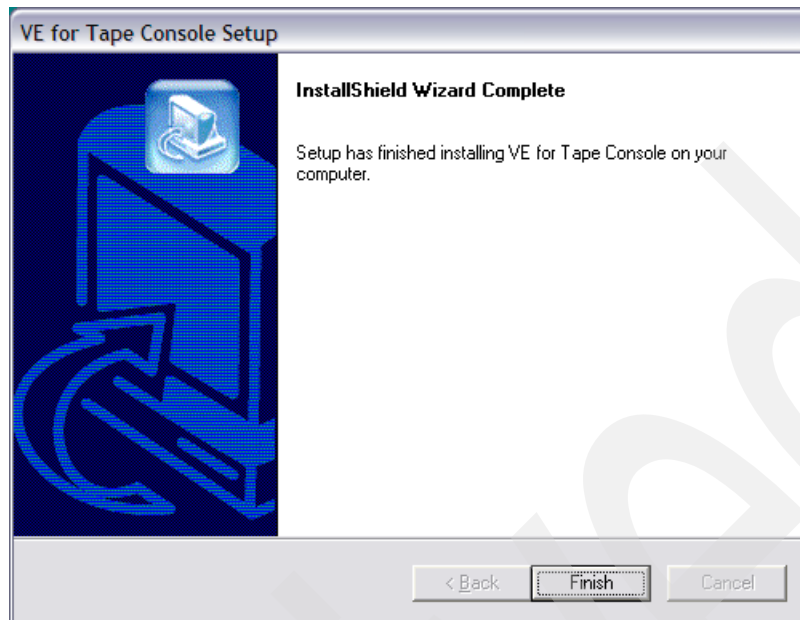

Figure 6-17 TS7530 VE for Tape Console install completion
12. Click **Finish** on the panel shown in Figure 6-17 to complete the installation.